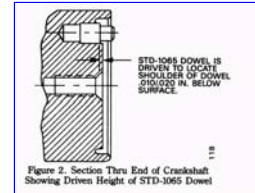

Figure 2. Section Thru End of Crankshaft Showing Driven Height of STD-1065 Dowel
5. Install a new dowel in the crankshaft as shown in Figures 2 and 3. Insure that the correct dowel is installed.